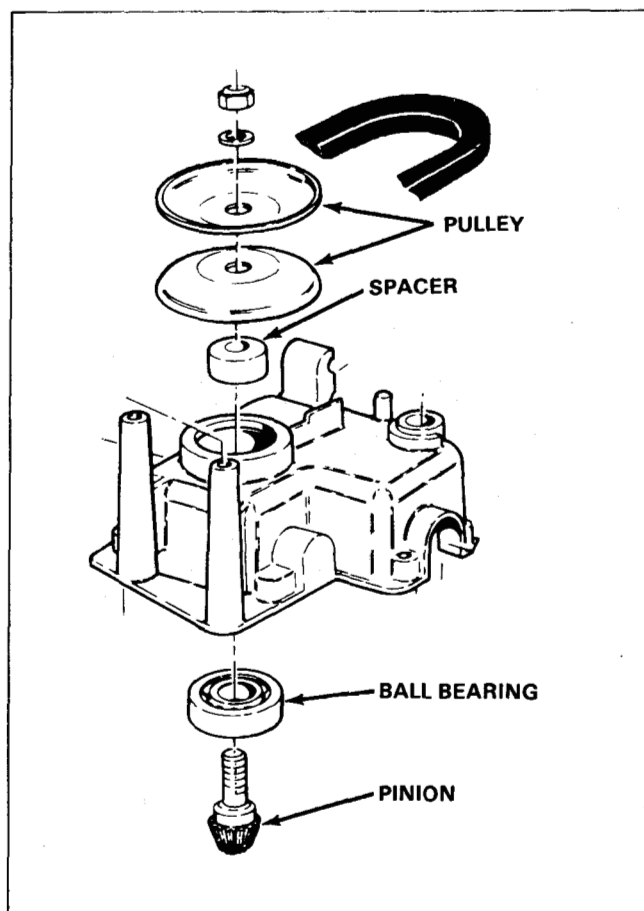

Figure 69
2. Slide the input shaft and pinion through the ball bearing and top with the spacer and two pulley halves as shown in Figure 69. Secure with a flat washer and a nylon locknut.